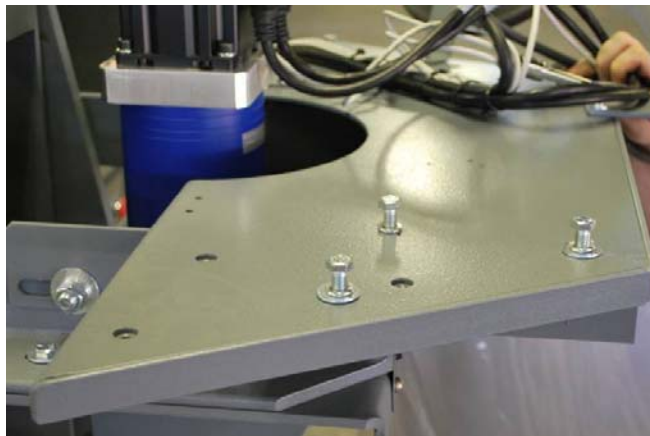

Figure 6 - Bolts Showing Right-Hand Unloader Position
10. Re-align the unloader assembly so that the unloader finger will match up to the hanger being held in the hanger slot of the mannequin assembly. To re-align the assembly, the three (3) bolts holding the base of the unloader to the top of the shirt press must be removed and the base repositioned to the second set of mounting holes, see Figure 6. Use caution while repositioning the unloader making sure to support it adequately to prevent falling. Reinstall the mounting bolts finger tight, place a hanger in the hanger slot, then, pivot the unloader assembly so the unloader finger will line up with the center of the hanger hook. Tighten the three (3) bolts.